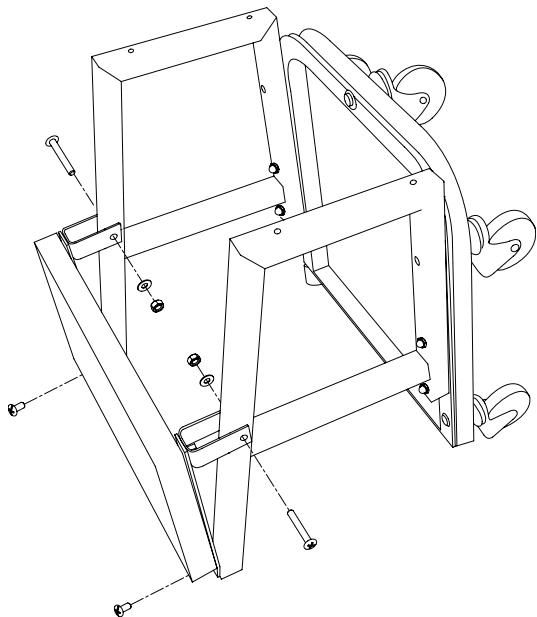

Figure 3 - Attaching Creeper Seat
- Attach creeper seat to creeper side frames using two M6 x 40 Phillips head screws, with washers, and nuts, and two M6 x 14 Phillips head screws as in Figure 3.